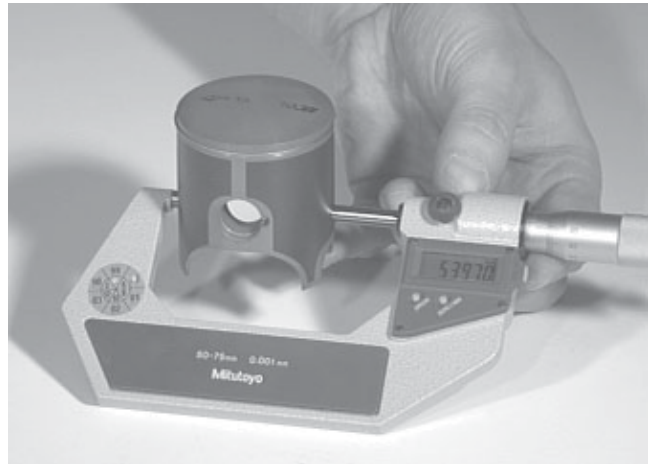

Fig. 51
- ✓ Determine the piston diameter with a micrometer, as shown in Fig. 51. Conditions of measurement: Room temperature = 20 °C, Measuring position 20 mm from the lower edge of the piston, at right angles to the piston pin.